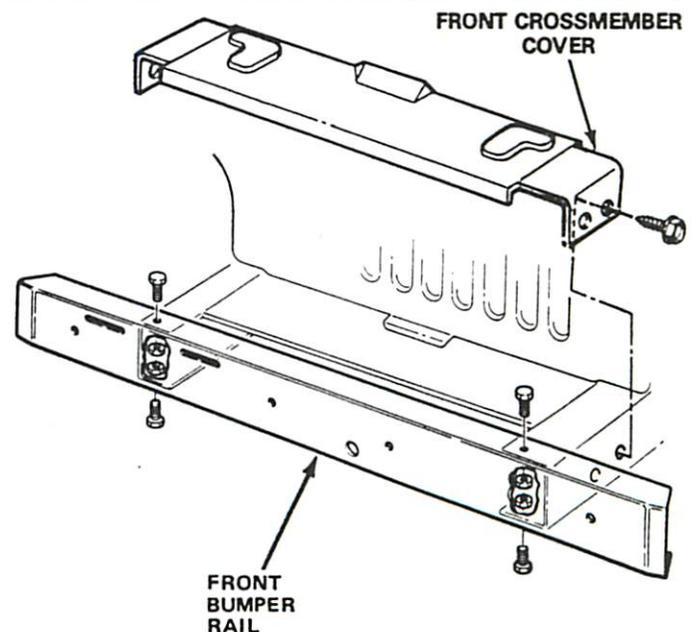

Fig. 3F-18 Front Bumper—CJ and Scrambler Models
Front bumper guards are available as an option on standard bumpers on all except CJ and Scrambler models. All CJ and Scrambler models have a front crossmember cover which covers the area between the grille panel and front bumper rail (fig. 3F-18).
- (1) Disconnect and remove fog lamps, if equipped.
- (2) Remove nuts and bolts attaching front bumper rail (fig. 3F-18) to frame extensions.